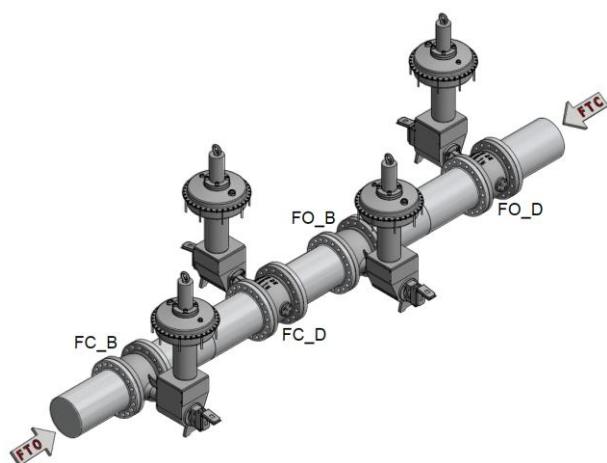

Bild 10: Standard installation positions - horizontal pipe-line
- SAMSON VETEC recommends the standard installation position: horizontal pipeline, MD, MZ actuator with vertical piston rod (vertical to the pipeline). See Figure 10.